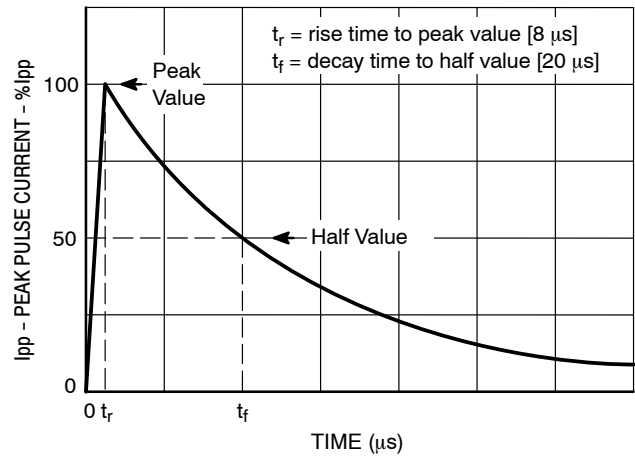

Figure 2. IEC61000-4-5 8/20 μs Pulse Waveform
3. Surge current waveform per Figure 2.